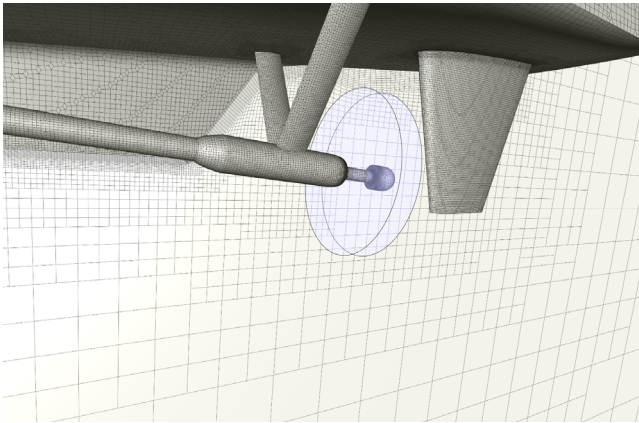

Figure 20: Ship geometry grid featuring an actuator disk
- ▶ **Actuator Disk:** The actuator disk model (Figure 20) simplifies the representation of propellers or rotors by simulating them as permeable disks that impart a pressure jump or momentum change to the fluid passing through them. This approach allows for the efficient simulation of the thrust and drag effects of propulsion systems without needing to model individual blades.